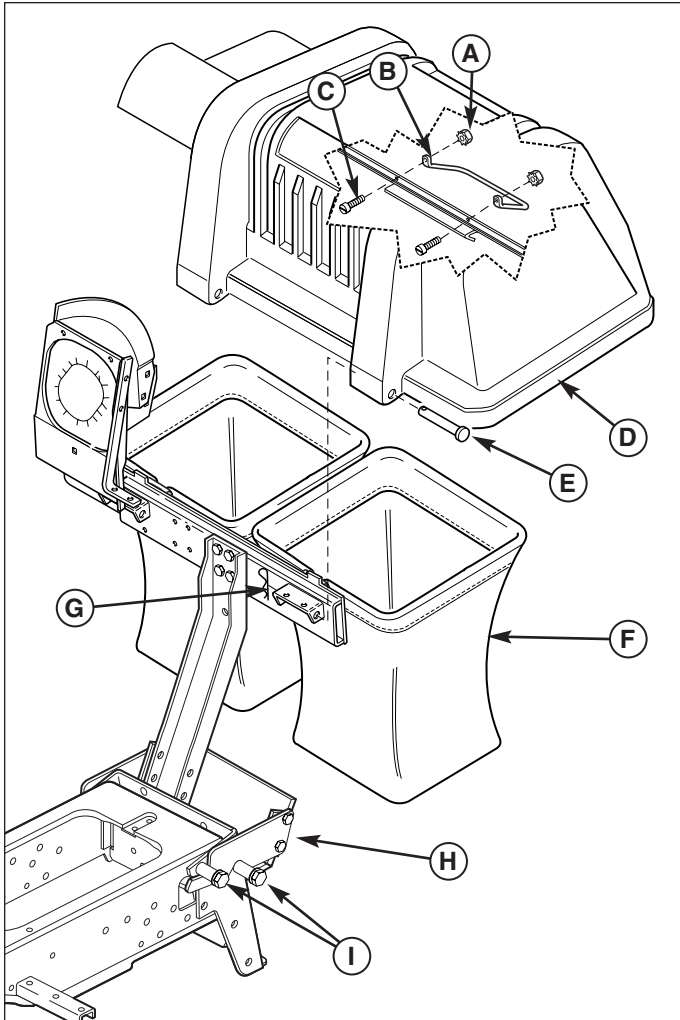
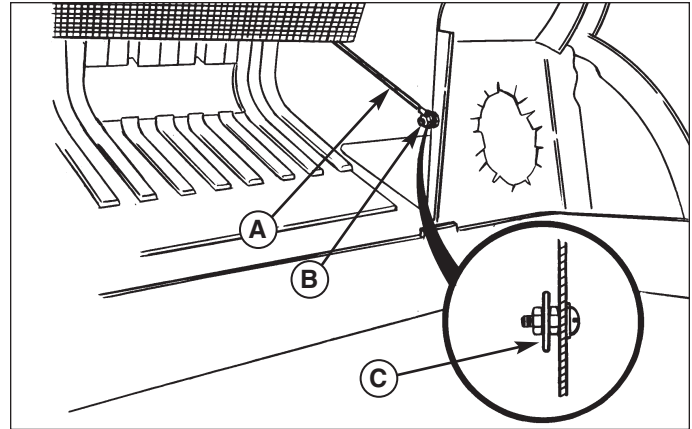
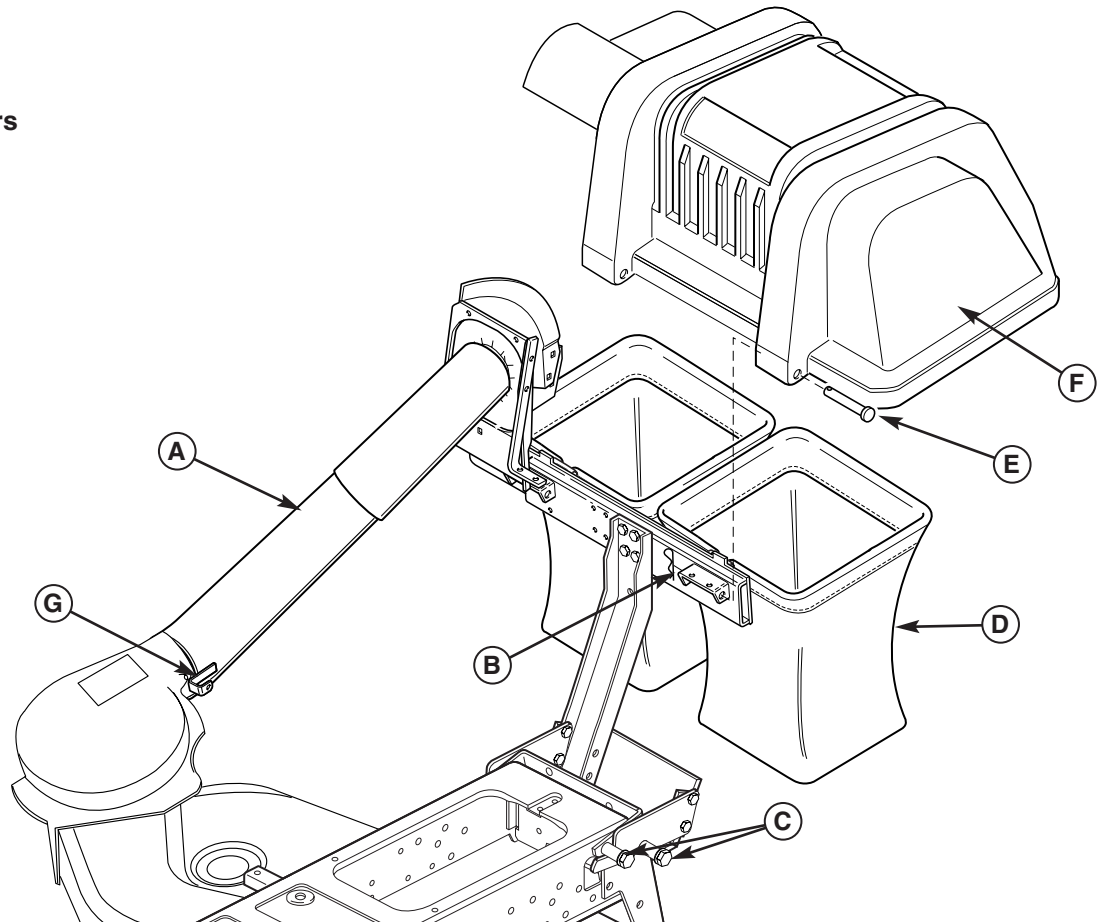

Figure 8. Install Catcher (Prestige Shown)
Figure 9. Install Cable
Figure 11. Normal Removal & Installation (Prestige Shown)
1. Mount the catcher hitch (H, Figure 8) on the frame spacers (I).
2. Hang the bags (F) on the horizontal support.
3. Install the handle (B) inside the cover. Secure with two #10-32 x 1/2" screws (C) and #10-32 nuts (A).
4. Rest the cover assembly (D) on the bags (F).
5. Install the two hinge pins (E) and secure with hair pin clips (G).
6. Open the cover and fasten cable (A, Figure 9) to support (B). The looped cable end fits over washer (C).
1. Disconnect the tubes (A, Figure 11) from the turbo and remove them from the catcher.
2. Remove the hair pin clip (B) and clevis pin (E) securing the cover (F). Disconnect the cable (see Figure 8). Remove the cover (F).
3. Remove and empty the bags (D).
4. Remove the catcher frame from the frame spacers (C).
1. Mount the catcher frame on the frame spacers (C, Figure 11).
2. Install the bags (D).
3. Install the cover (F). Secure with the clevis pins (E) and hair pin clips (B).
4. Connect the cover cable (Figure 9).
5. Insert the tubes (A, Figure 11) into the catcher and connect to the turbo. Be sure the clip (G) is secured over the top of the turbo flange nut.